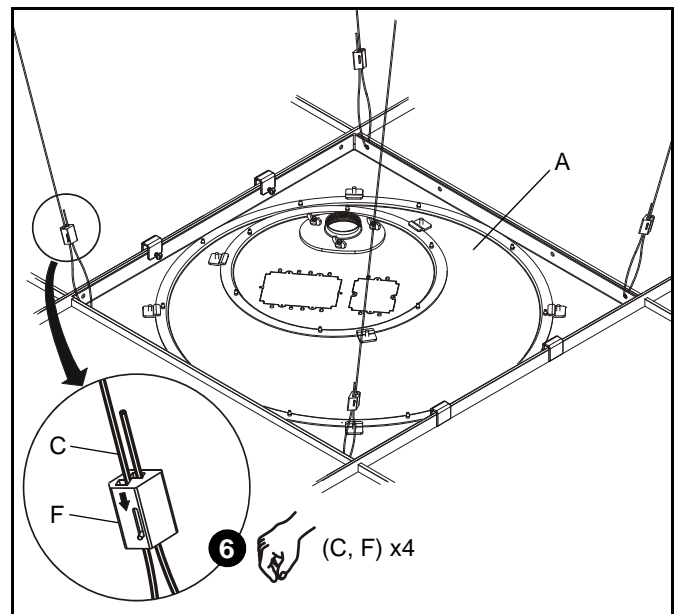

Figure 10
5. Thread each cable (C) completely through cable lock (F), corresponding hole(s) in corner of tray (A), and completely through opposite side of cable lock (F) (See Figure 10). Adjust cable tension until tray (A) is supported *entirely* and *evenly* by all four support cables, but not so tight as to distort ceiling tile framework.